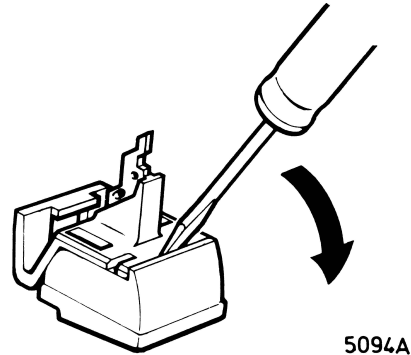

Fig. 1
Removing the knobs 143 and the pushbuttons 61 (Fig. 1,7,8)
- Insert a small screwdriver into the slit between the knob and the button and twist the knob loose (Fig. 1).